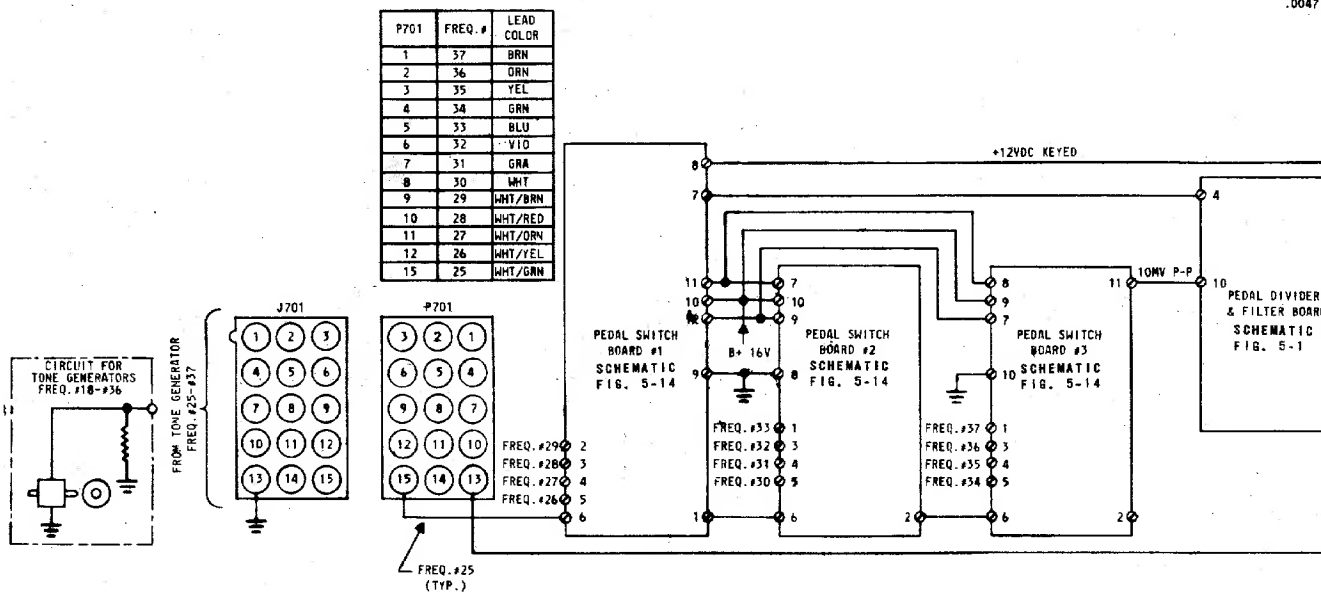

Figure 5-33
- 5-2. ARRANGEMENT OF SECTION.** – Schematic diagrams illustrating the latest production are shown in Figures 5-1 through 5-22. Wiring diagrams for both early and late production are shown in Figures 5-23 through 5-30. Schematic diagrams for early T-100 and T-200 models are shown in Figures 5-31 and 5-32. Figure 5-33 is T-262 schematic diagram.